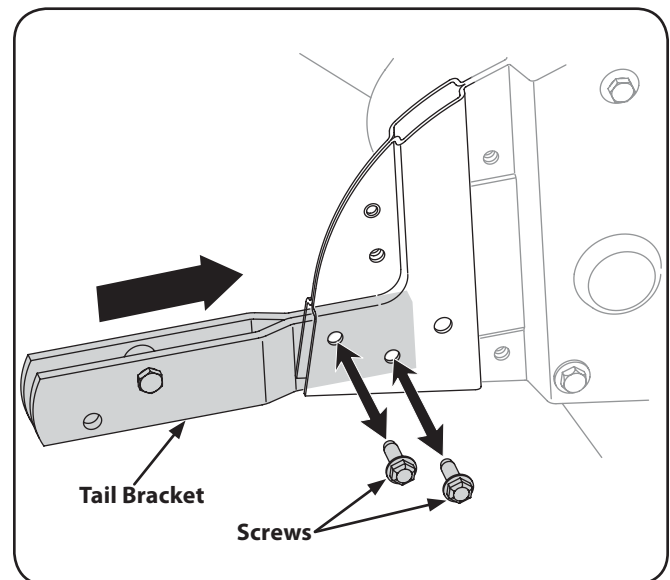

Figure 3-6
- Remove the two screws from the tail bracket as shown in Fig. 3-6.
- Insert the depth gauge bracket into the frame and reinstall the two screws removed earlier. Tighten the hex bolts securely. See Fig. 3-6.